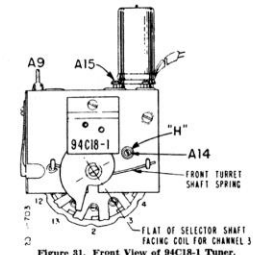

Figure 31. Front View of 94C18-1 Tuner.
- Set Sharp Tuning control at half rotation by rotating it approximately 150° as shown in figure 31.
A15 (figure 31) for zero VTVM reading between a positive and a negative peak.
- When using a television signal, set the Channel Selector knob for a station and adjust controls for normal picture and sound. Set Sharp Tuning control at electrical center by rotating approximately 150° or half rotation as shown in figure 31. Note position of electric rotor. Then adjust A15 (figure 31) for best sound and clearly defined picture.